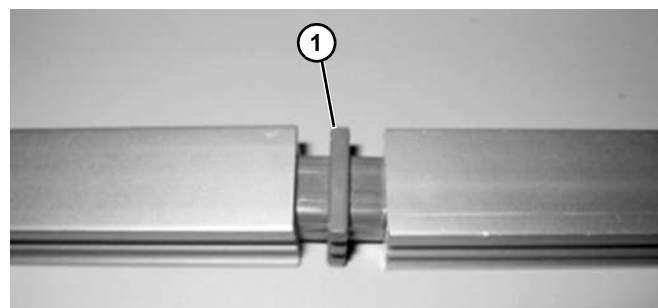

Figure 100
1. Connecting plugs (**Figure 100, item 1**) are pressed into two guide rail ends with soft hammer.